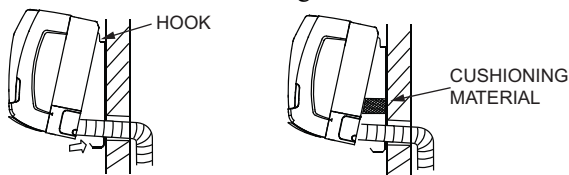

Fig. 7 — Piping Connection
1. For condensate and refrigerant piping, lift the unit from the bottom making sure the unit is still attached to the mounting plate at the top. See Fig. 7.
2. Introduce temporary cushioning material to maintain the space needed to connect the piping and to avoid damage to the unit and wall. See Fig. 7.